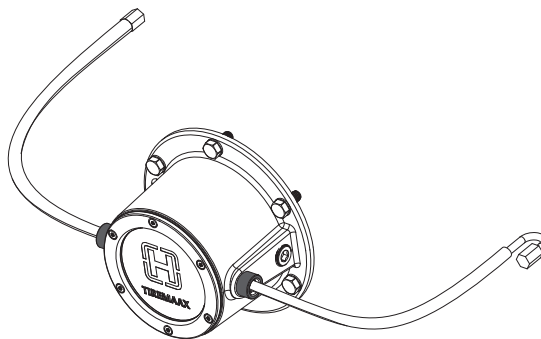
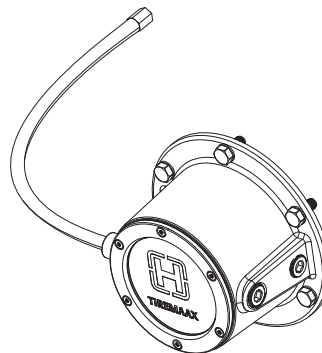

Figure 27: Dual tire hose to hubcap connection(s)
Figure 28: Super-single tire hose to hubcap connection
7. **Loosely connect** other end of tire hose(s) (Figure 27 for dual or Figure 28 for super-single) to the outlet port of the hubcap and check to ensure hose(s) meet criteria of Figure 24 and Figure 25.
- Super single wheels, view C of Figure 25 and Figure 28, require only one tire hose. Positioning the hubcap port 90° from the valve stem provides optimum fit. The unused port (on the side with the oil-fill plug) will be plugged.